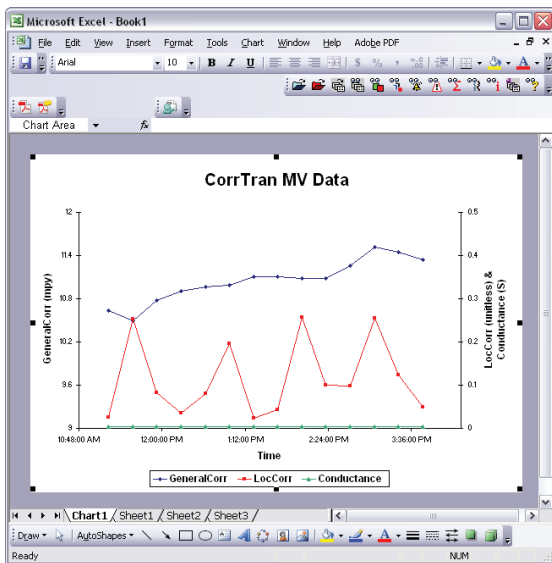

Figure 33. Example Log Data Graph
- You can now trend and analyze the log data as needed. Figure 33 is an example of how you can plot general corrosion, localized corrosion, and conductance over time.